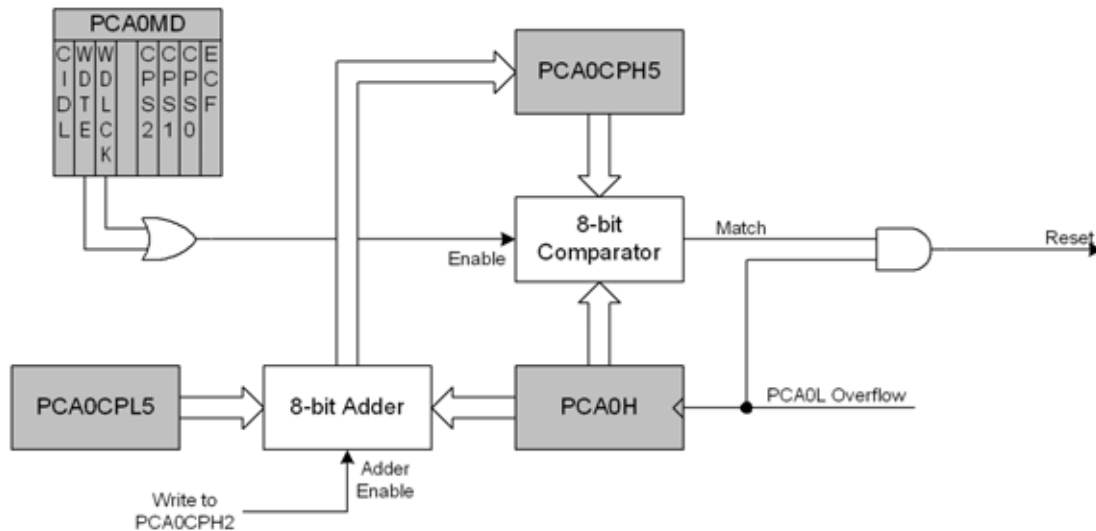

Figure 28.11. PCA Module 2 with Watchdog Timer Enabled
While the WDT is enabled, writes to the CR bit will not change the PCA counter state; the counter will run until the WDT is disabled. The PCA counter run control bit (CR) will read zero if the WDT is enabled but user software has not enabled the PCA counter. If a match occurs between PCA0CPH5 and PCA0H while the WDT is enabled, a reset will be generated. To prevent a WDT reset, the WDT may be updated with a write of any value to PCA0CPH5. Upon a PCA0CPH5 write, PCA0H plus the offset held in PCA0CPL5 is loaded into PCA0CPH5 (See Figure 28.11).